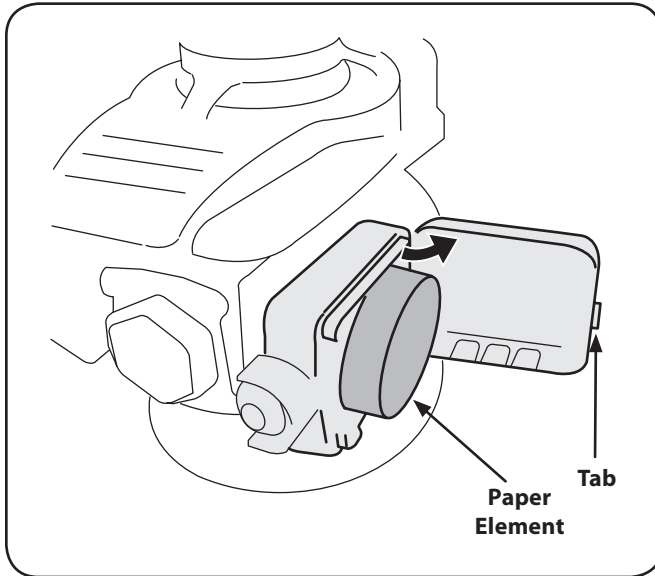

Figure 6-3
1. Remove the air filter cover by squeezing the front and back sides to release the tab at the front of the air filter cover. See Fig. 6-3. Clean foam element or replace when damaged.